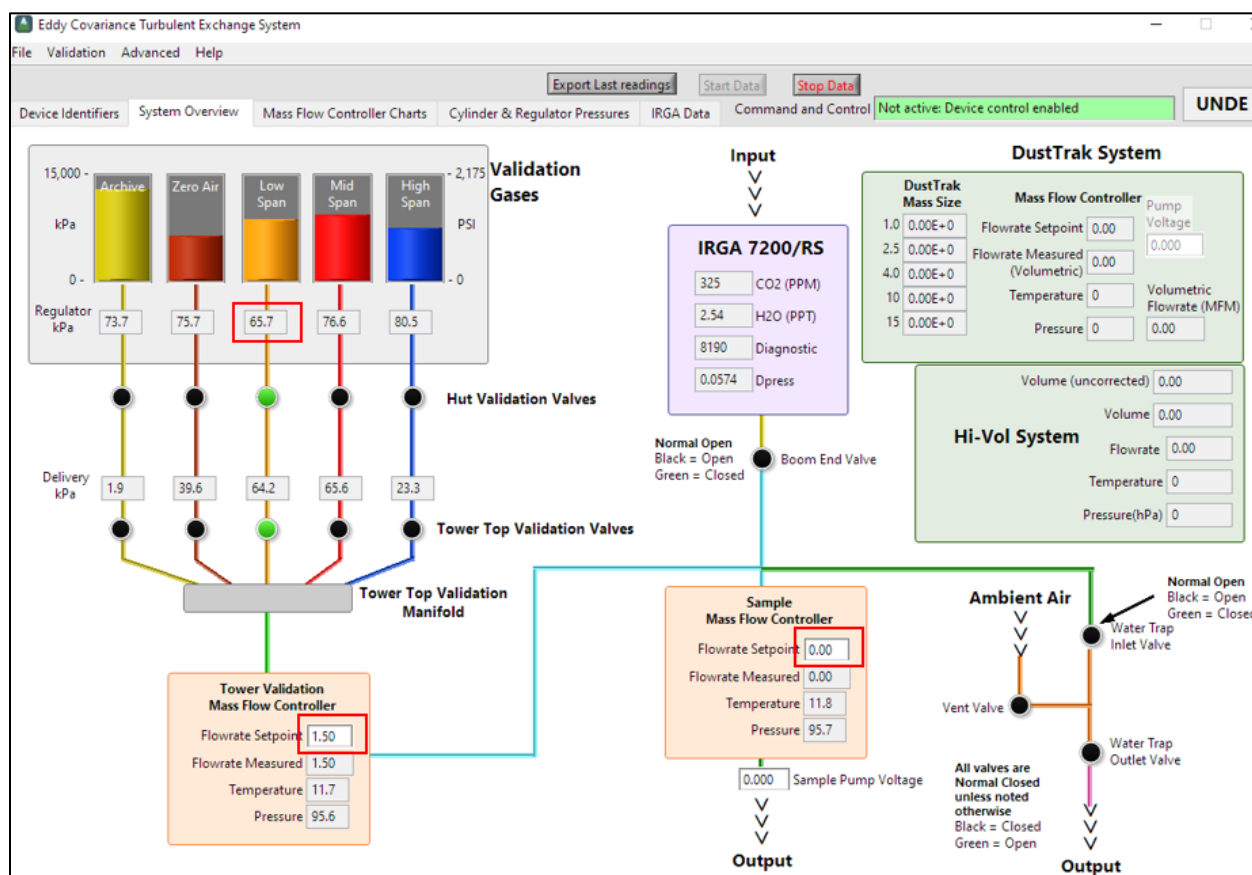

Figure 19. Set the validation MFC set point to 1.5 SLPM with gas flowing at 1.5 SLPM via the IS Control and Monitoring Suite.
15. For the ECTE system, set the validation MFC set point to 1.5 SLPM with gas flowing at 1.5 SLPM via the IS Control and Monitoring Suite in **Figure 19** on the next page. Adjust the regulator's pressure adjusting knob (turn clockwise) until the delivery pressure reads 70 kPa. (Ensure the Instrument Hut/Environmental Enclosure valves are open, or IRGA/cylinder valves are open.)